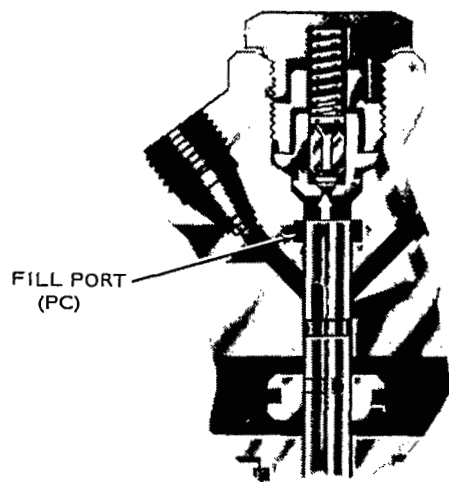

FIGURE 34. PORT CLOSING
9. Stop flywheel rotation at exact point fuel stops flowing from No. 1 line into container (one drop in 2 to 5 seconds). This point is the port closing time of the injection pump plunger regardless of flywheel position, Figure 34.